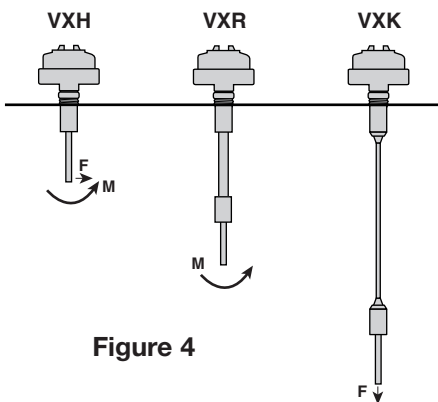

Figure 4
Observe the specifications for bending force(F), torque(M), and pull force(F) as indicated below: See Figure 4.